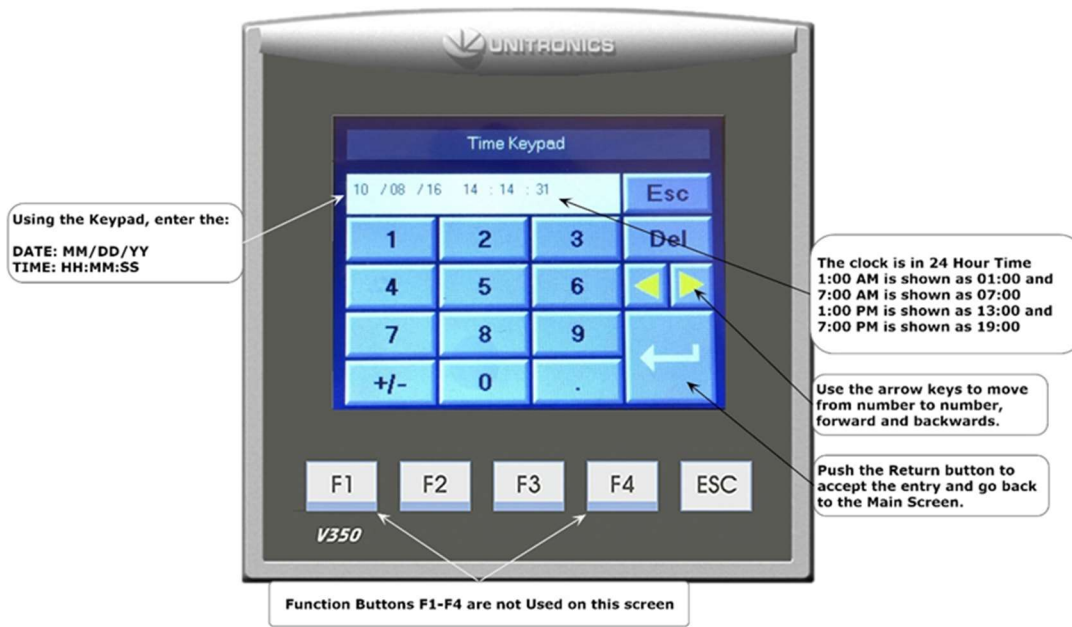

Figure 6-13: Time & Date Screen
2. On the Date and Time Interface Screen, insert the Date: (MM/DD/YY) then the Time: (HH:MM:SS). Use the ARROW keys to move from left or right if a number is not correct. The Time is a 24-hour format so 1:00 PM is set at 13:00 hours. **See Figure 6-13.**